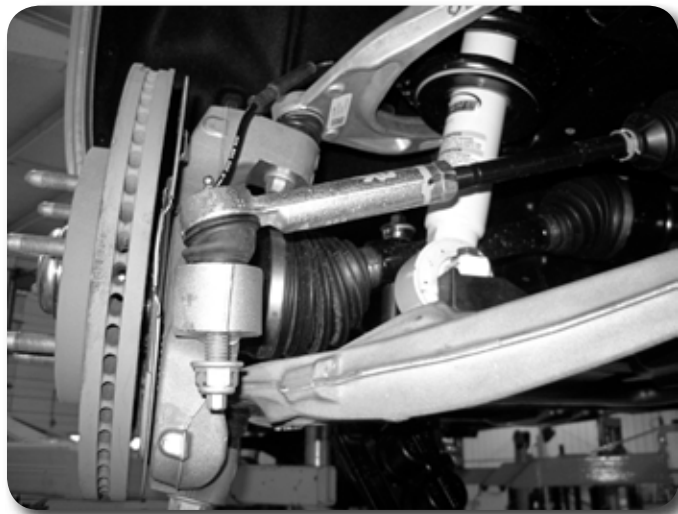

Figure 3
7. Disconnect the steering from the knuckle **Figure 3**. Remove the tie rod end nut. Steel Knuckle: Strike the knuckle near the tie rod end with a hammer to unseat the taper. Aluminum Knuckle: Avoid striking the knuckle, typically the taper unseats more easily and gently hitting the end of the tie rod end will unseat the taper. A pickle fork can also be used. Save the mounting nut.